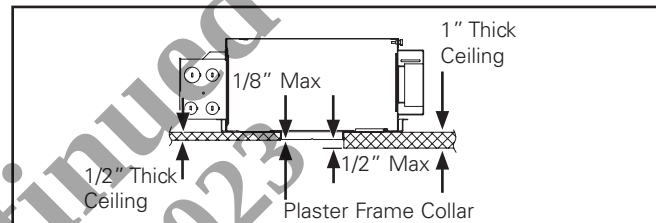

Figure 3.
- To ensure proper performance, the housing platform must be installed with the edge of the plaster frame collar flush to within 1/2" of bottom of the finished ceiling. The housing platform is designed for 1/2" to 1" thick ceilings using the standard plaster frame collar (Figure 3.).